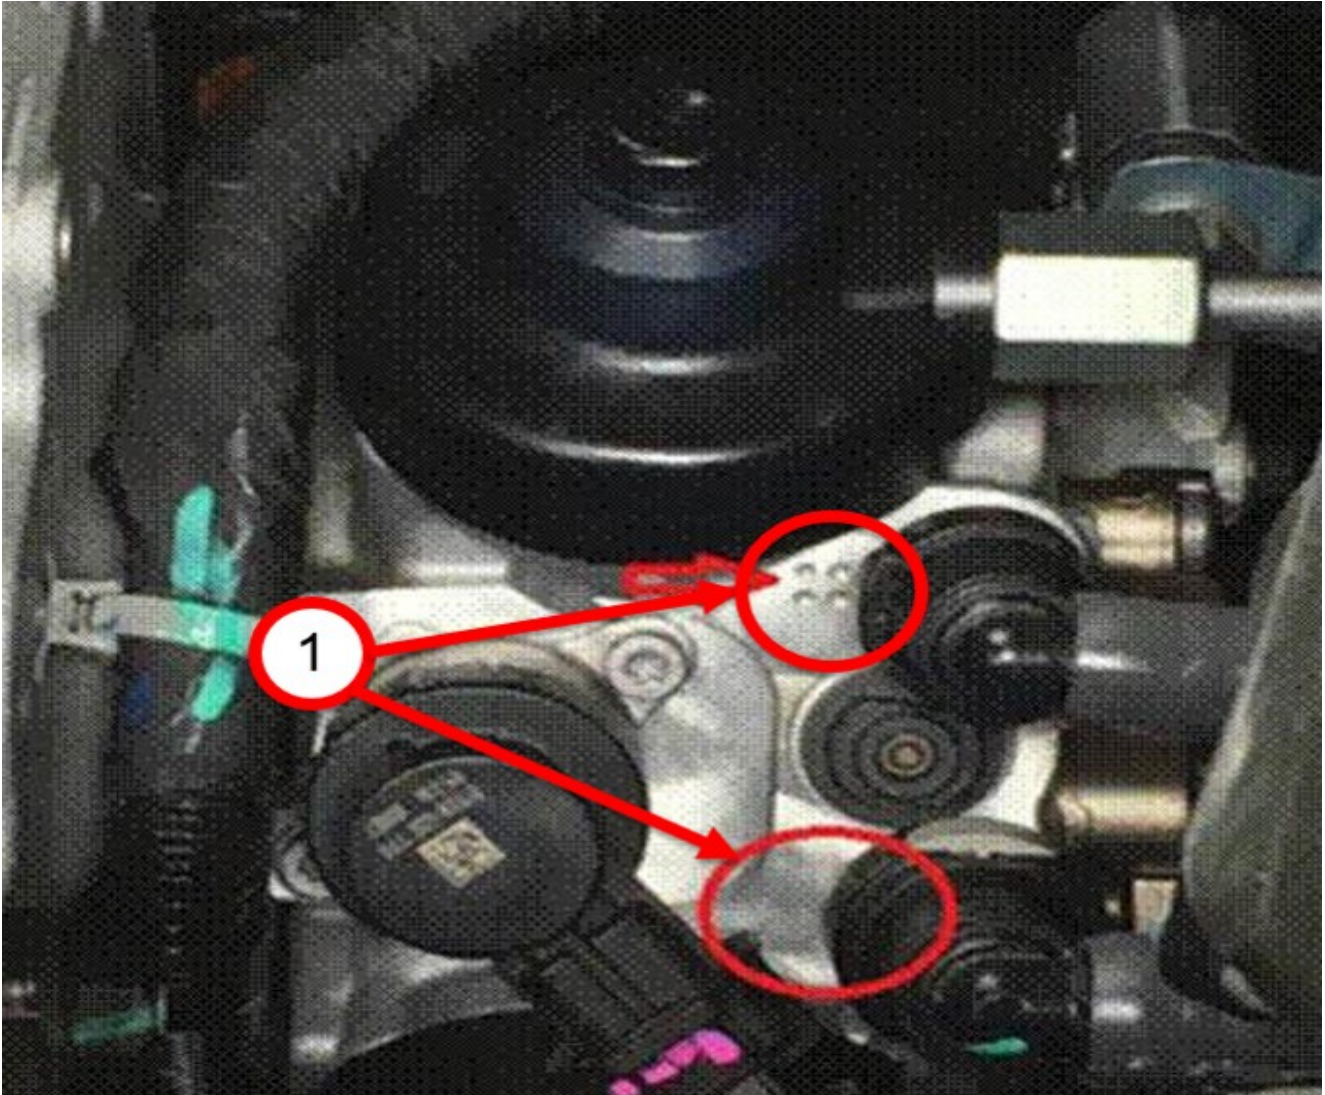

Fig. 2
- Vehicles with the old style Asymmetrical Cam design will have multiple small dots or no dots embossed in the pump housing (Fig. 2) .